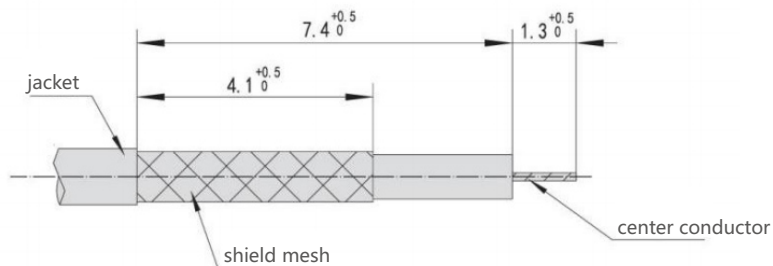

Figure 2.6
①Strip the cable as shown in Figure 2.6. The end must be cut clean and perpendicular to the axial plane of the cable. The cable must not be deformed during cutting.